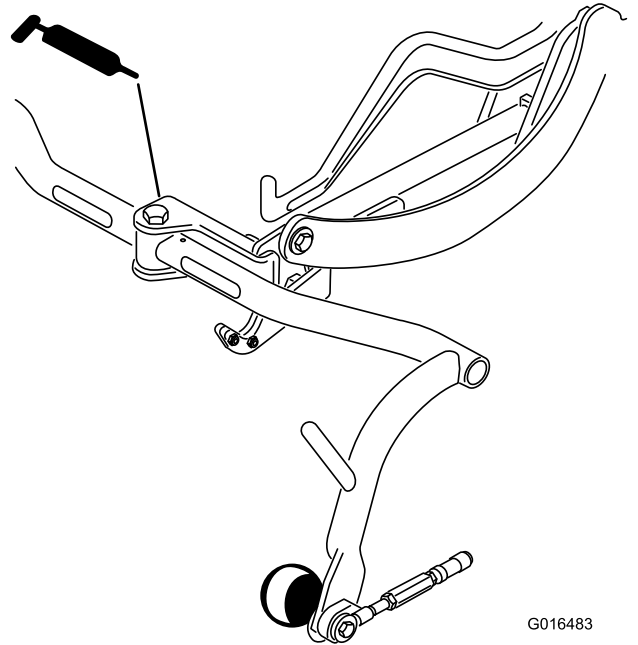

Figure 37
- Carrier frame pivot (3) (Figure 37)